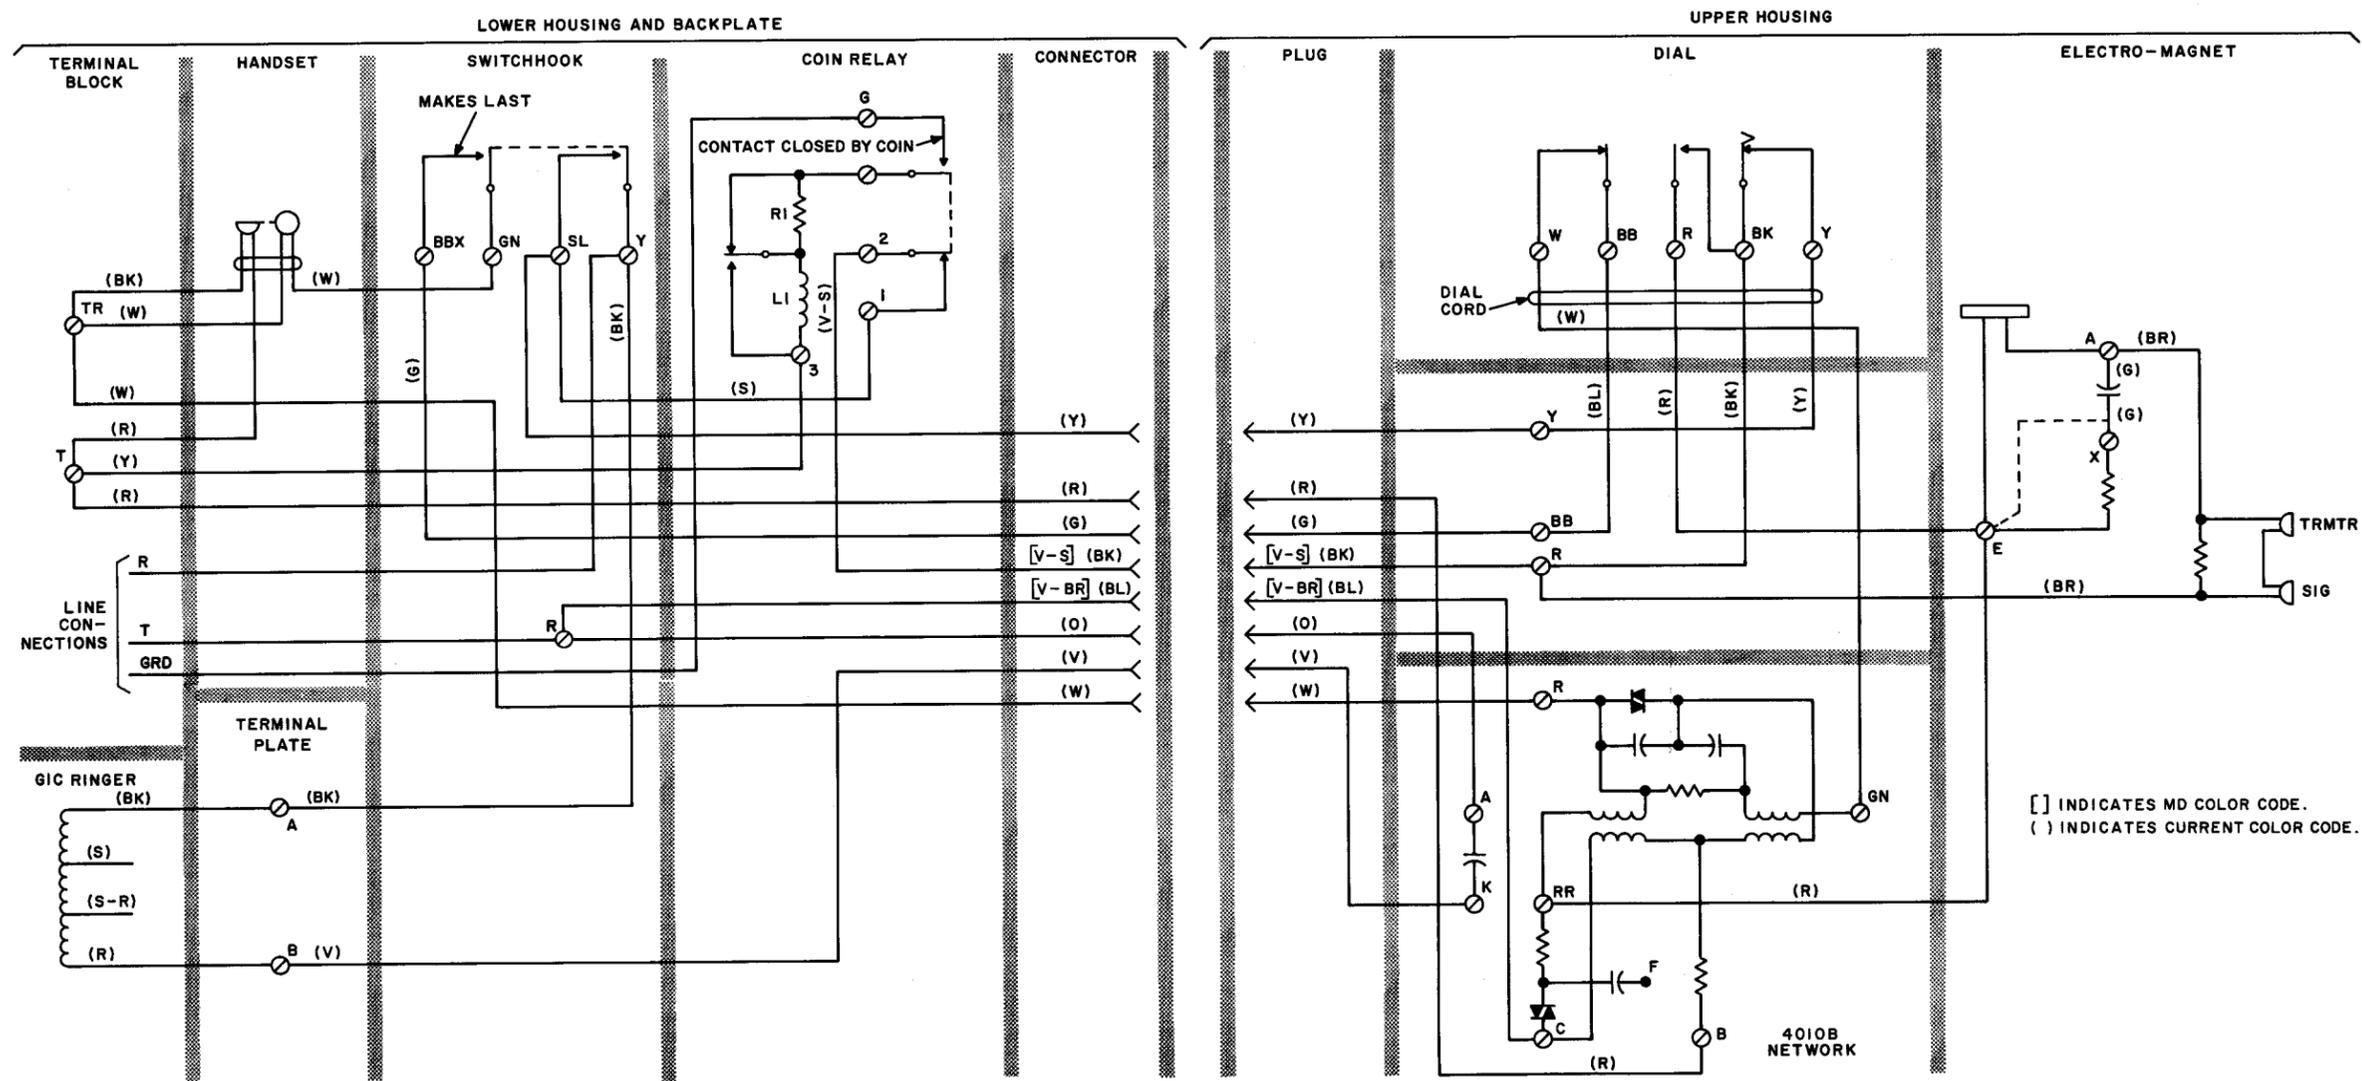

Fig. 3 - Connections - Coin Collector With D-180120 Kit Installed
3.02 A schematic of the coin collectors after modification listed in 1.04 is shown in Fig. 3.